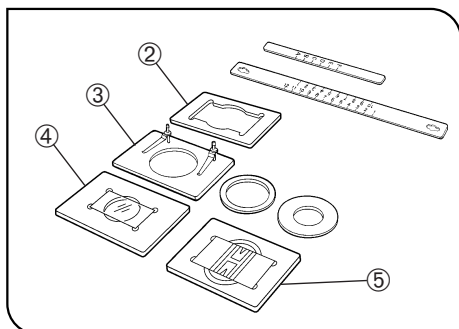

Fig. 15
⊙ To secure other vessels than microtiter plates, various optional holders are available. A Terasaki plate holder ② is available for holding Terasaki plates (72-well, or 60-well). When using this, it is necessary to replace the stage scales with those provided with the plate holder. Petri dish holder ③ is available for 35 mm, 54 mm and 65 mm diameter petri dishes, and a slide glass holder ④ is available for holding slide glass, and the IX2-BCTP* ⑤ is available for a blood cell test plate holder. (Fig. 15)
1. 96-well or 24-well microtiter plates can be held directly in place by widening the specimen holder ①.
- Terasaki plate holder ② (AB4488): For test plate, 35 mm diameter petri dish holder ④ or 65 mm diameter petri dish
- Slide glass holder ③ (AB4489): For slide glass or 54 mm petri dish
- ⊙ The IX2-BCTP blood cell test plate holder (Fig. 15 ⑤) can also be used.